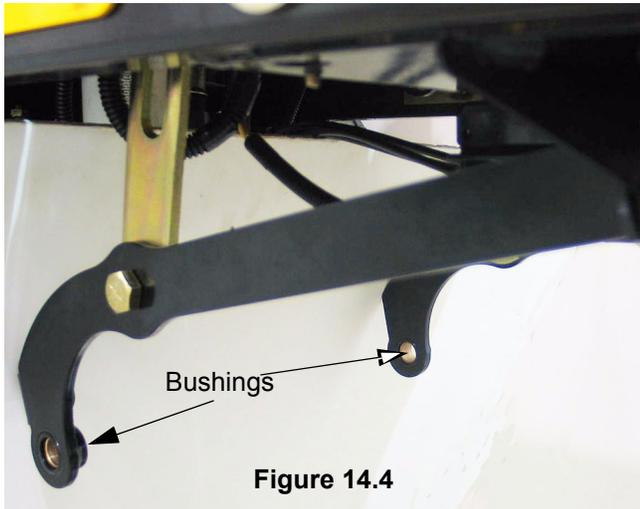

Figure 14.4
- 14.4. The deck lift arms and their connection points to the deck were modified in November of 2005. The new arms feature a bushing at the connection point to the cutting deck. See Figure 14.4.